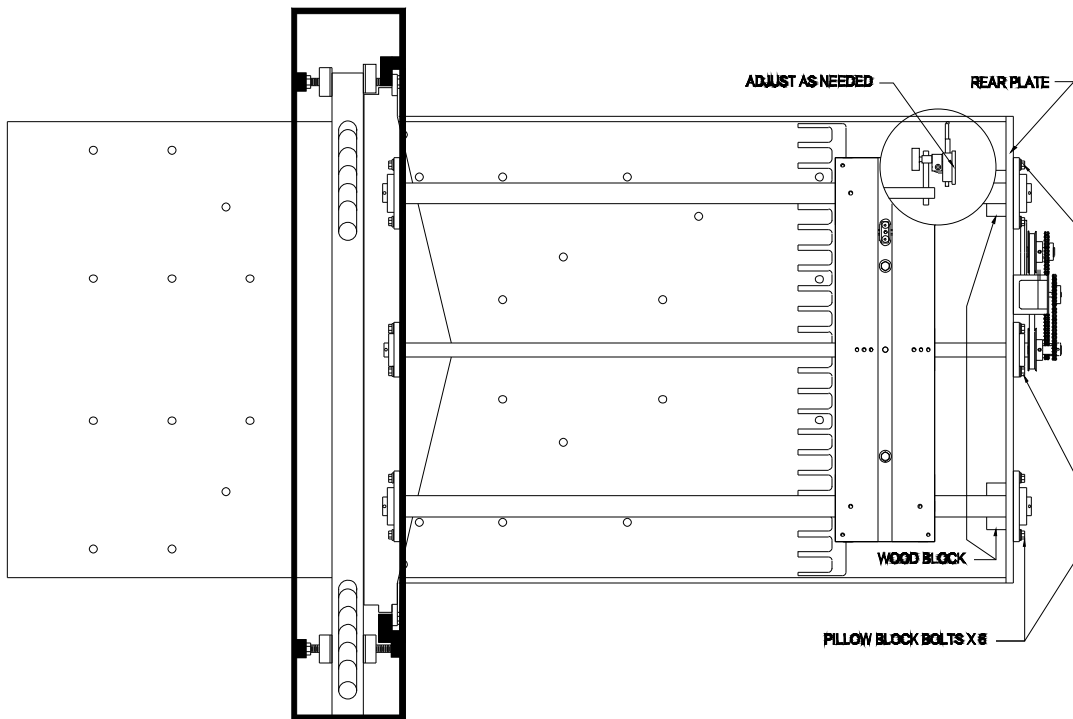

Fig. 37
3. Move the backgauge to the back of the table and attach a dial indicator in the position shown. Fig. 37.
8. Move the backgauge to the back. Loosen the two (2) hex bolts on each of the three (3) pillow blocks that are on the back plate. Fig. 37.